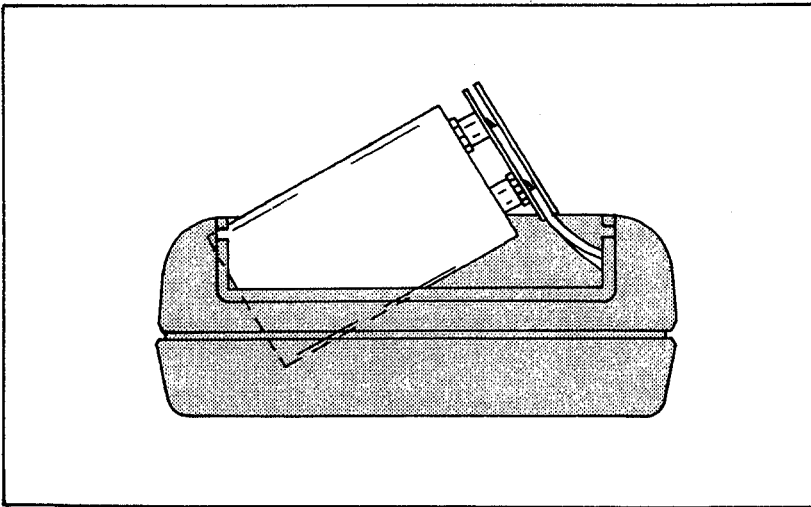

**Figure 2-1. Removing the Battery Cover**
3. Open the battery compartment on the bottom of the 8024B as shown in Figure 2-1.